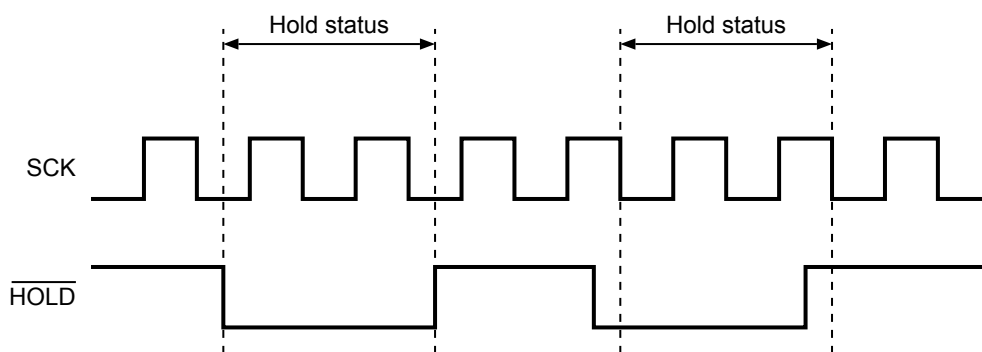

Figure 23 Hold Operation
**Figure 23** shows the hold operation. Set Hold ( $\overline{HOLD}$ ) to “L” when the serial clock (SCK) is in “L”, Hold ( $\overline{HOLD}$ ) is switched at the same time the hold status starts. If setting Hold ( $\overline{HOLD}$ ) to “H”, Hold ( $\overline{HOLD}$ ) is switched at the same time the hold status ends.